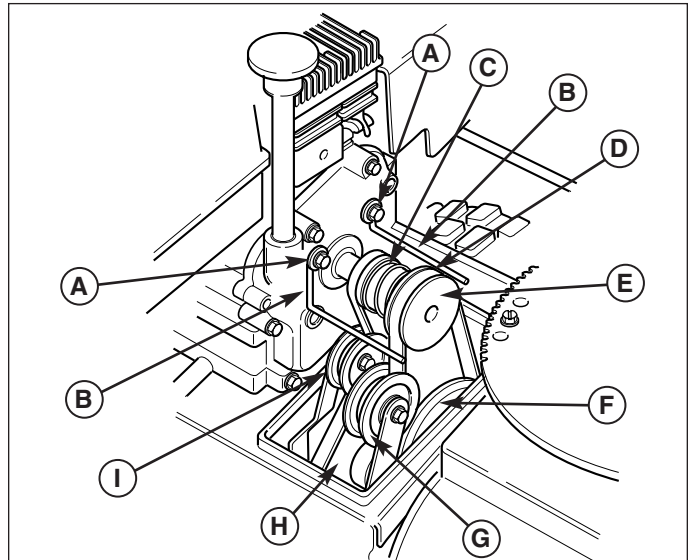

Figure 23. Belts and Pulleys
3. Move the belt guides (B, Figure 23) by loosening the two capscrews (A).
- a. Slip the auger drive belt (D, Figure 23) from the idler pulley by pushing it away from the pulley and then toward the rear.
- a. Pull the idler pulley (I, Figure 23) away from the belt and slip the belt from the pulley.
- b. Slip the belt off the traction pulley and then the engine pulley. The arm for the front idler pulley (G, Figure 23) may have to be pivoted to provide clearance for removing the belt from the traction pulley.
- c. Pull the belt out between the auger pulley (F, Figure 23) and traction pulley.